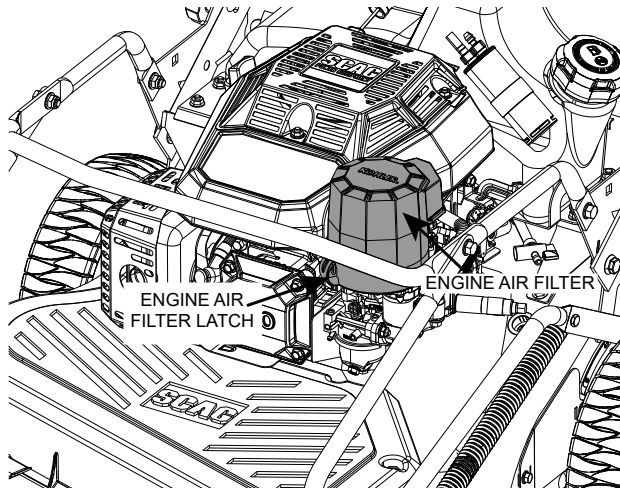

Figure 7-5. Engine Air Filter
1. Lift up on the latch securing the air cleaner cover to the air cleaner assembly. See Figure 7-5.